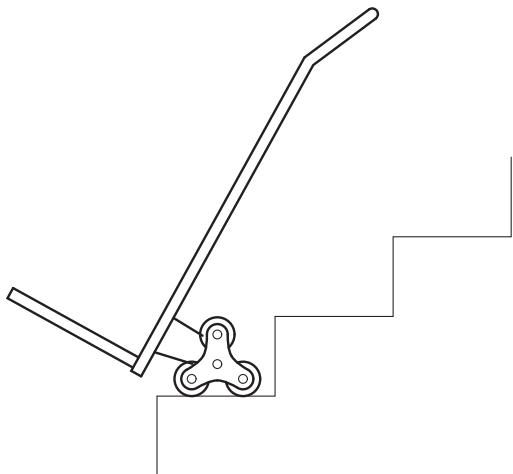

Fig. 14
- 5 (a) Fig. 14 shows the side view of a stair climbing hand truck.